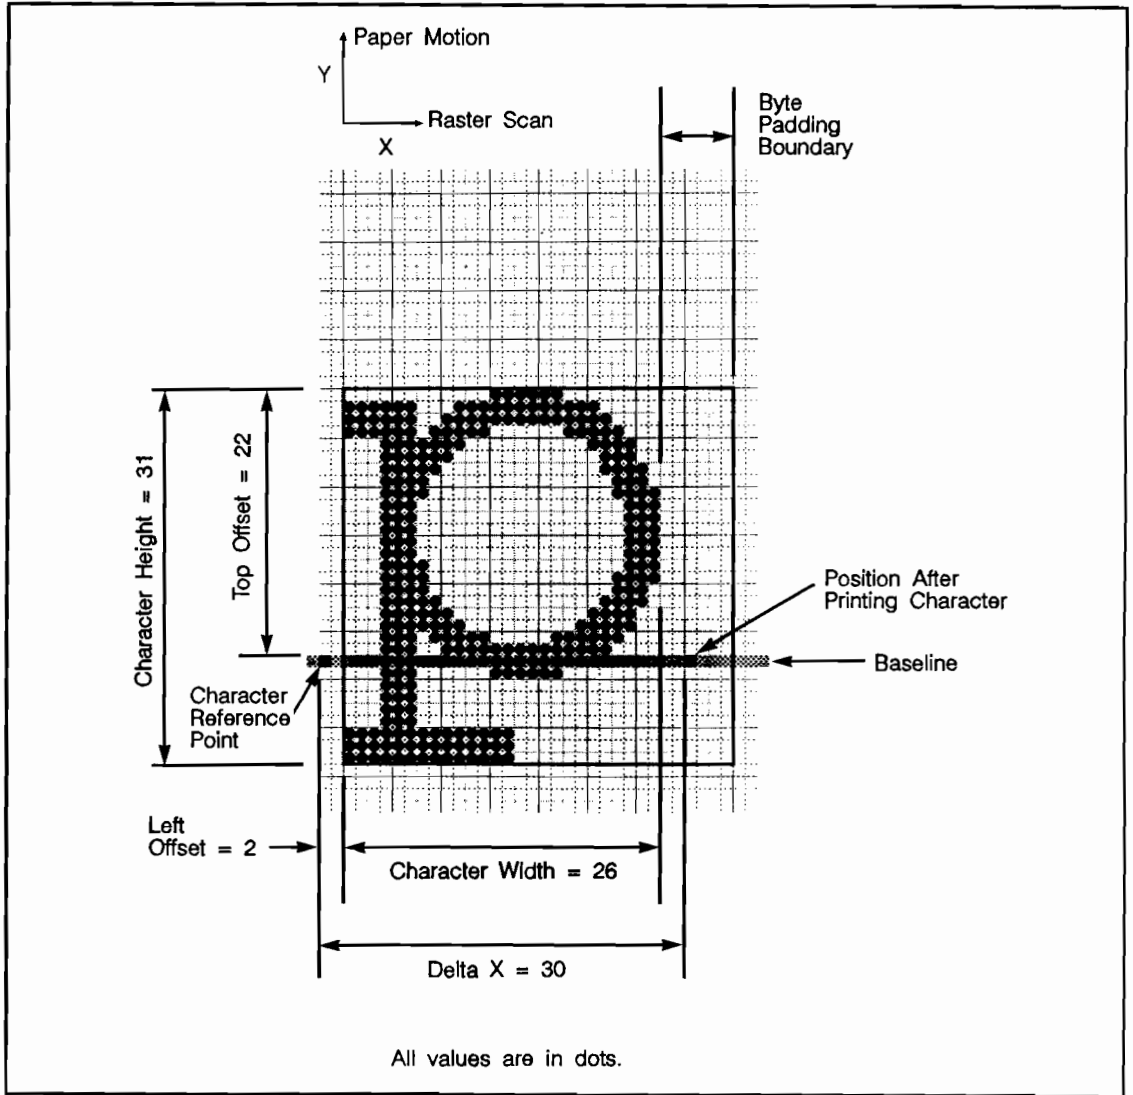

Figure 10-10. Portrait Character Example
Left Offset (SI) Left offset specifies the distance in dots from the reference point to the left side of the character pattern on the physical page coordinate system (i.e, this value is orientation dependent). The left and top offsets locate the character reference point about the cursor position (see Figures 10-10 and 10-11). Left offset is orientation dependent.
Top Offset (SI) Top offset specifies the distance in dots from the reference point to the top of the character pattern on the physical coordinate system (that is, this value is orientation dependent.) The left and top offsets locate the character reference point about the cursor position (see figures 10-10 and 10-11). The legal range for the top offset is -16384 to 16384 dots.